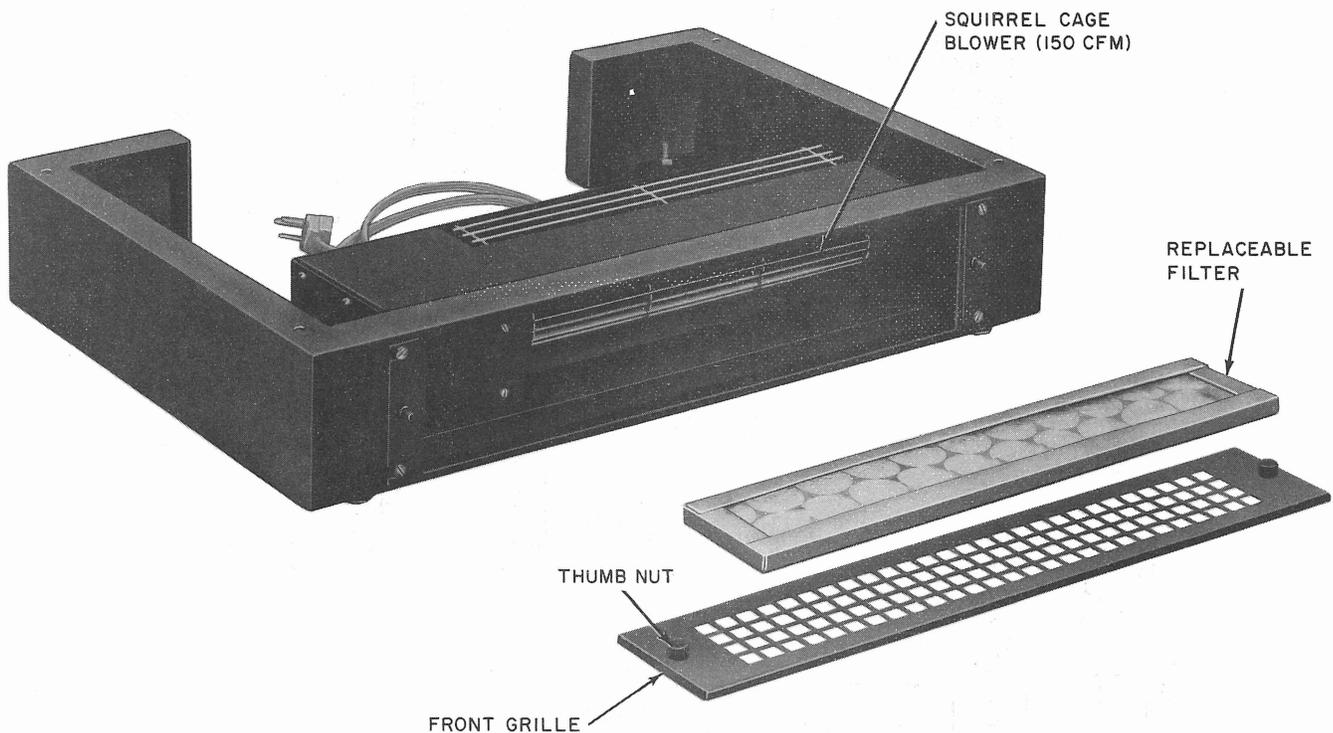

Fig. 1—Lower Skirt Assembly Removed and Partially Disassembled Showing Replaceable Filter
- (1) Remove two thumb nuts from front of blower grille. Remove and inspect filter (Fig. 1).
- (2) If filter is dirty, discard and replace with a new filter. Replacement filters are available from McLean Company as their part number S-1032-21.
- (3) Install filter and replace front grille.